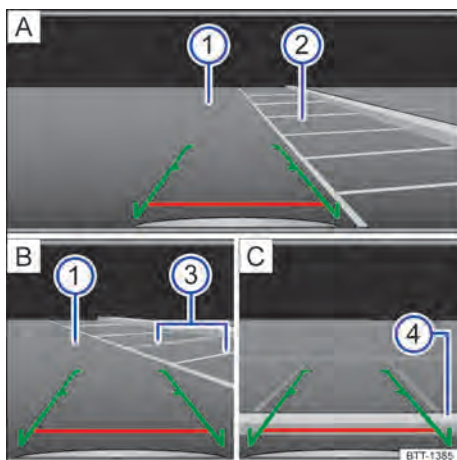

Fig. 91 Display of the radio or navigation system: enter the parking spot with the rear view camera (schematic display).
Key for → Fig. 91:
- Position the vehicle in front of the parking spot → Fig. 91 ⓘ **A**.